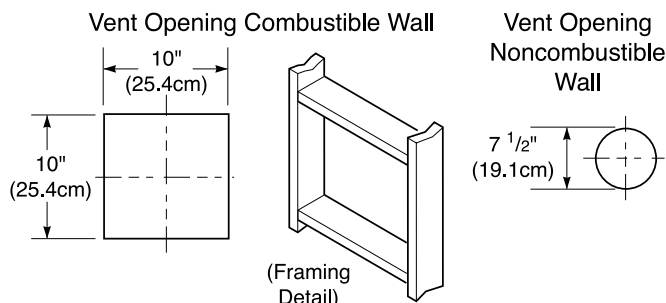
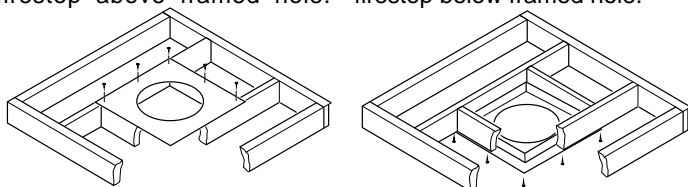

Figure 17 - Vent Opening Requirements
Figure 25 - Installing Firestop
3. Attach vent pipe assembly to the fireplace. Set fireplace in front of it's permanent location to insure minimum clearances. Mark the wall for a 10" square hole (for noncombustible material such as masonry block or concrete, a 7 1/2" (19.1cm) diameter hole is acceptable). See Figure 17. The center of the hole should line up with the center-line of the horizontal rigid vent pipe. Cut a 10"x10" (25.4cm x 25.4cm) square hole through combustible exterior wall (7 1/2" [19.1cm] diameter hole if noncombustible). Frame as necessary (see Figure 17).
1. Cut a 10" square hole in the ceiling using the locating hole as a center point. The opening should be framed to 10"x10" (25.4cm x 25.4cm) inside dimensions, as shown in Figure 17 on page 11 using framing lumber the same size as the ceiling joists. If the area above the ceiling is an insulated ceiling or a room, nail firestop from the top side. This prevents loose insulation from falling into the required clearance space. Otherwise, install firestop below the framed hole. The firestop should be installed with no less than three nails per side (see Figure 25).
3. Cut a hole in the roof using the locating hole as a center point. (Cover any exposed open vent pipes before cutting hole in roof.) The 10"x10" (25.4cm x 25.4cm) hole must be measured on the horizontal; actual length may be larger depending on the pitch of the roof. There must be a 1" clearance from the vent pipe to combustible materials. Frame the opening as shown in Figure 17 on page 11.